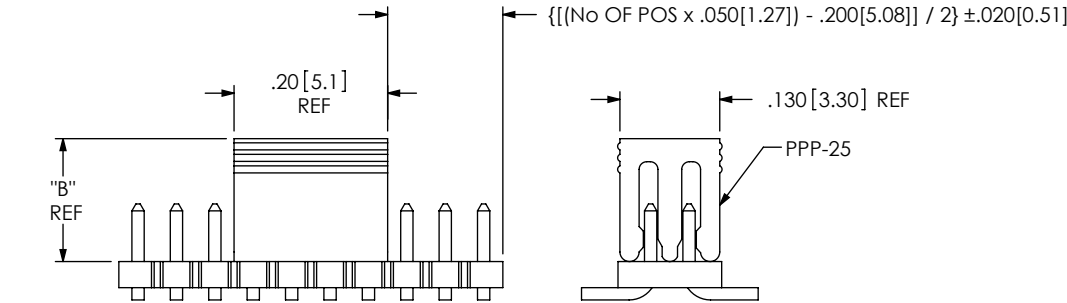

FIG 5
- P: PICK AND PLACE PAD (USE PPP-25) (AVAILABLE ON POSITIONS 05 THRU 50) (SEE FIG 5, SHT 2 & FIG 7, SHT 3) (USE PPP-25-NT FOR TAPE & REEL)